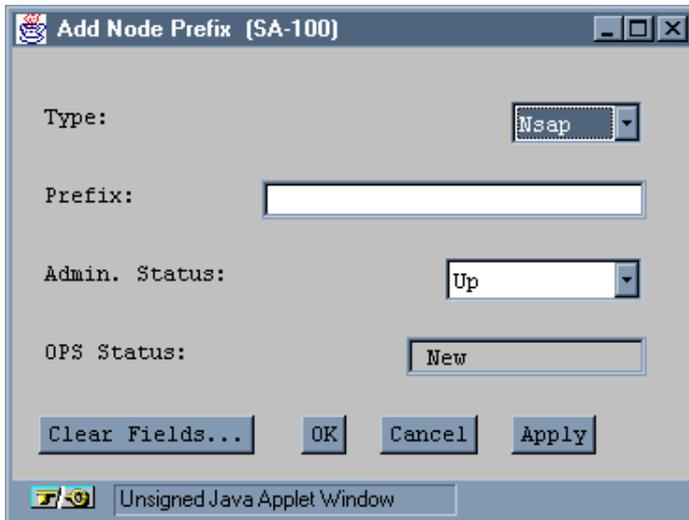

Figure 3-11. Add Node Prefix Window
2. To add a new ILMI Node Prefix, choose the Add Node Prefix button. The Add Node Prefix window appears (see Figure 3-11).